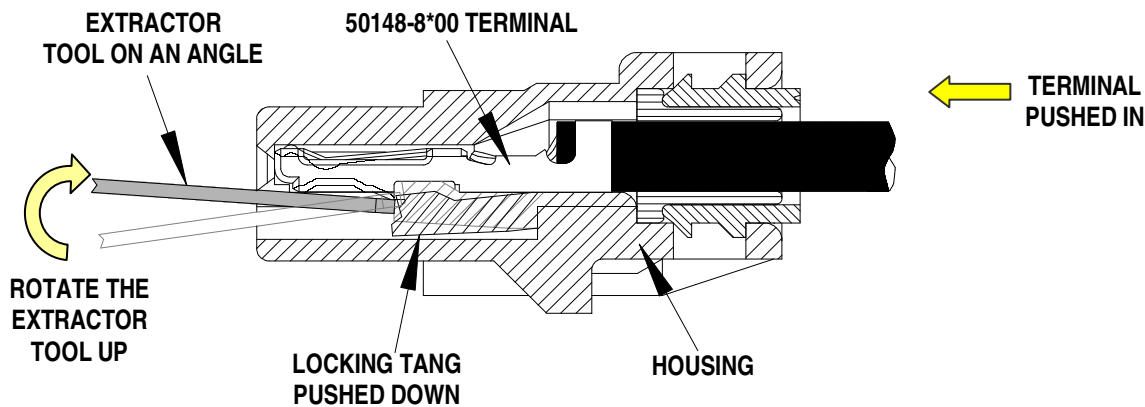

FIGURE 6
6. While rotating the extraction tool up, bend the terminal locking tang down and push the terminal back through the connector slot. Make sure that the terminated wire is pulled out at the same time. See Figure 6.